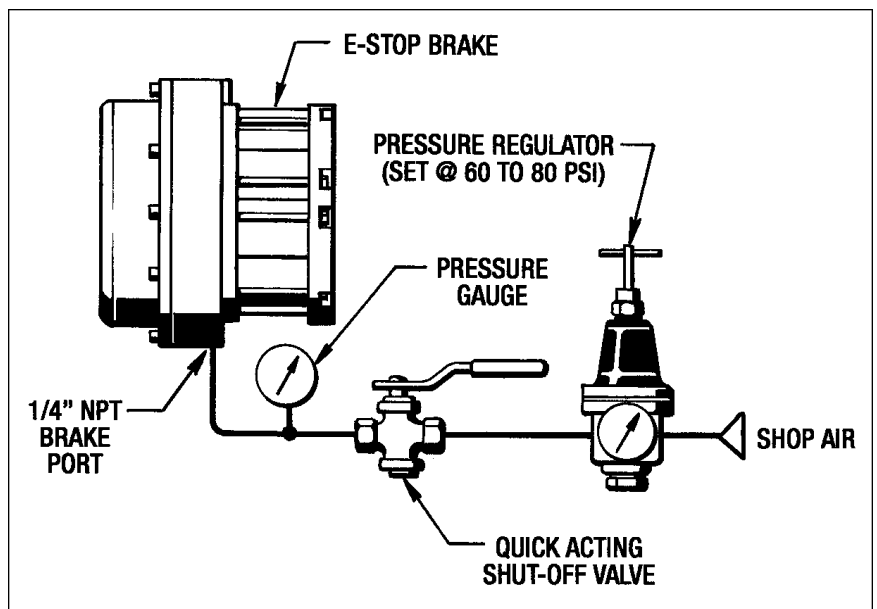

Figure 4.1 - Checking Piston Seals for Leakage
(See Figure 4.1)
1. Connect the Pneumatic Testing Setup as shown in Figure 4.1 to the 1/4" NPT or 3/8" NPT Brake Pressure Port.